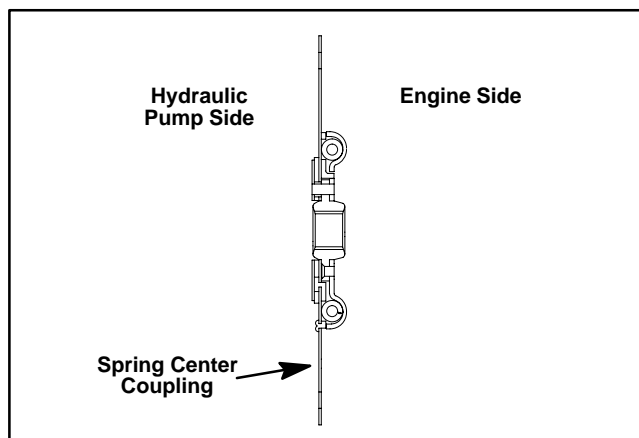

Figure 16
4. Position spring center coupling (coil springs toward engine (Fig. 16)) over dowels. Secure coupling to coupling spacer with cap screws and lockwashers. Torque cap screws from 35 to 43 ft-lb (47.5 to 58.3 N-m).